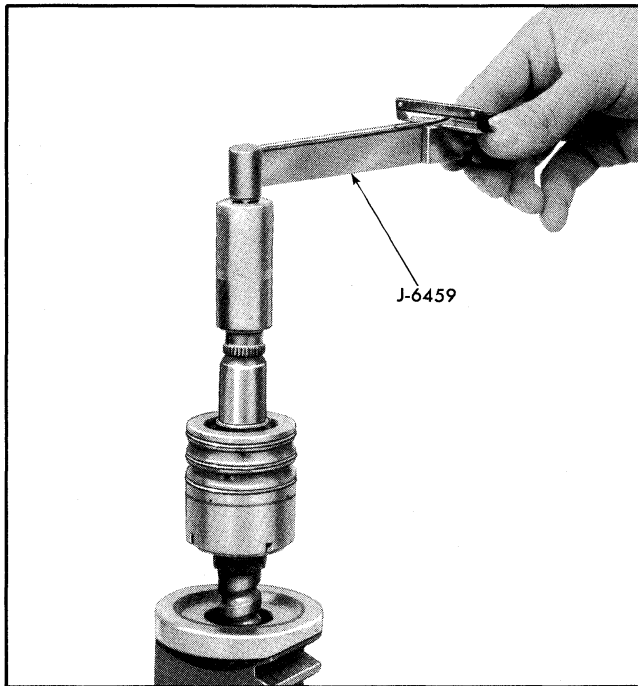

Fig. 9A-28 Checking Worm Preload
4. Attach an inch-pound torque wrench with 3/4 inch 12-point socket to stub shaft (Fig. 9A-28).